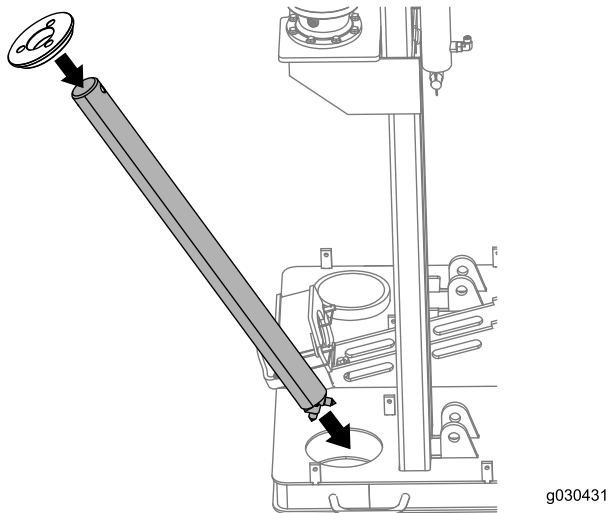

Figure 6
1. Slide the stake guide over the top of the rock stake and place the stake on the machine as shown in Figure 6.